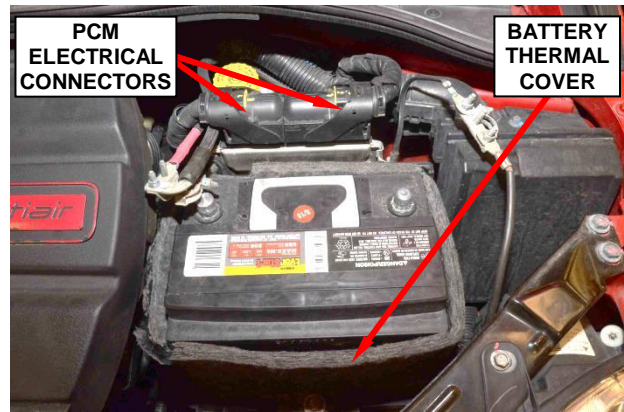

Figure 4 – PCM Connectors
6. Disconnect the PCM electrical connectors from the PCM (Figure 4).
7. Remove and save the battery thermal cover (Figure 4).